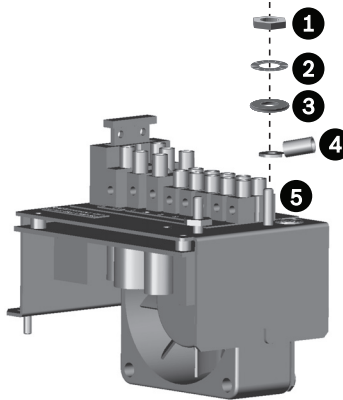

Figure 5.7 Safety grounding
A terminal lug is provided for connecting the external safety (earth) ground to the grounding post on the PCB bracket assembly. See *Figure 5.7*.
- Reattach the ground connections in the order shown in *Figure 5.7*.